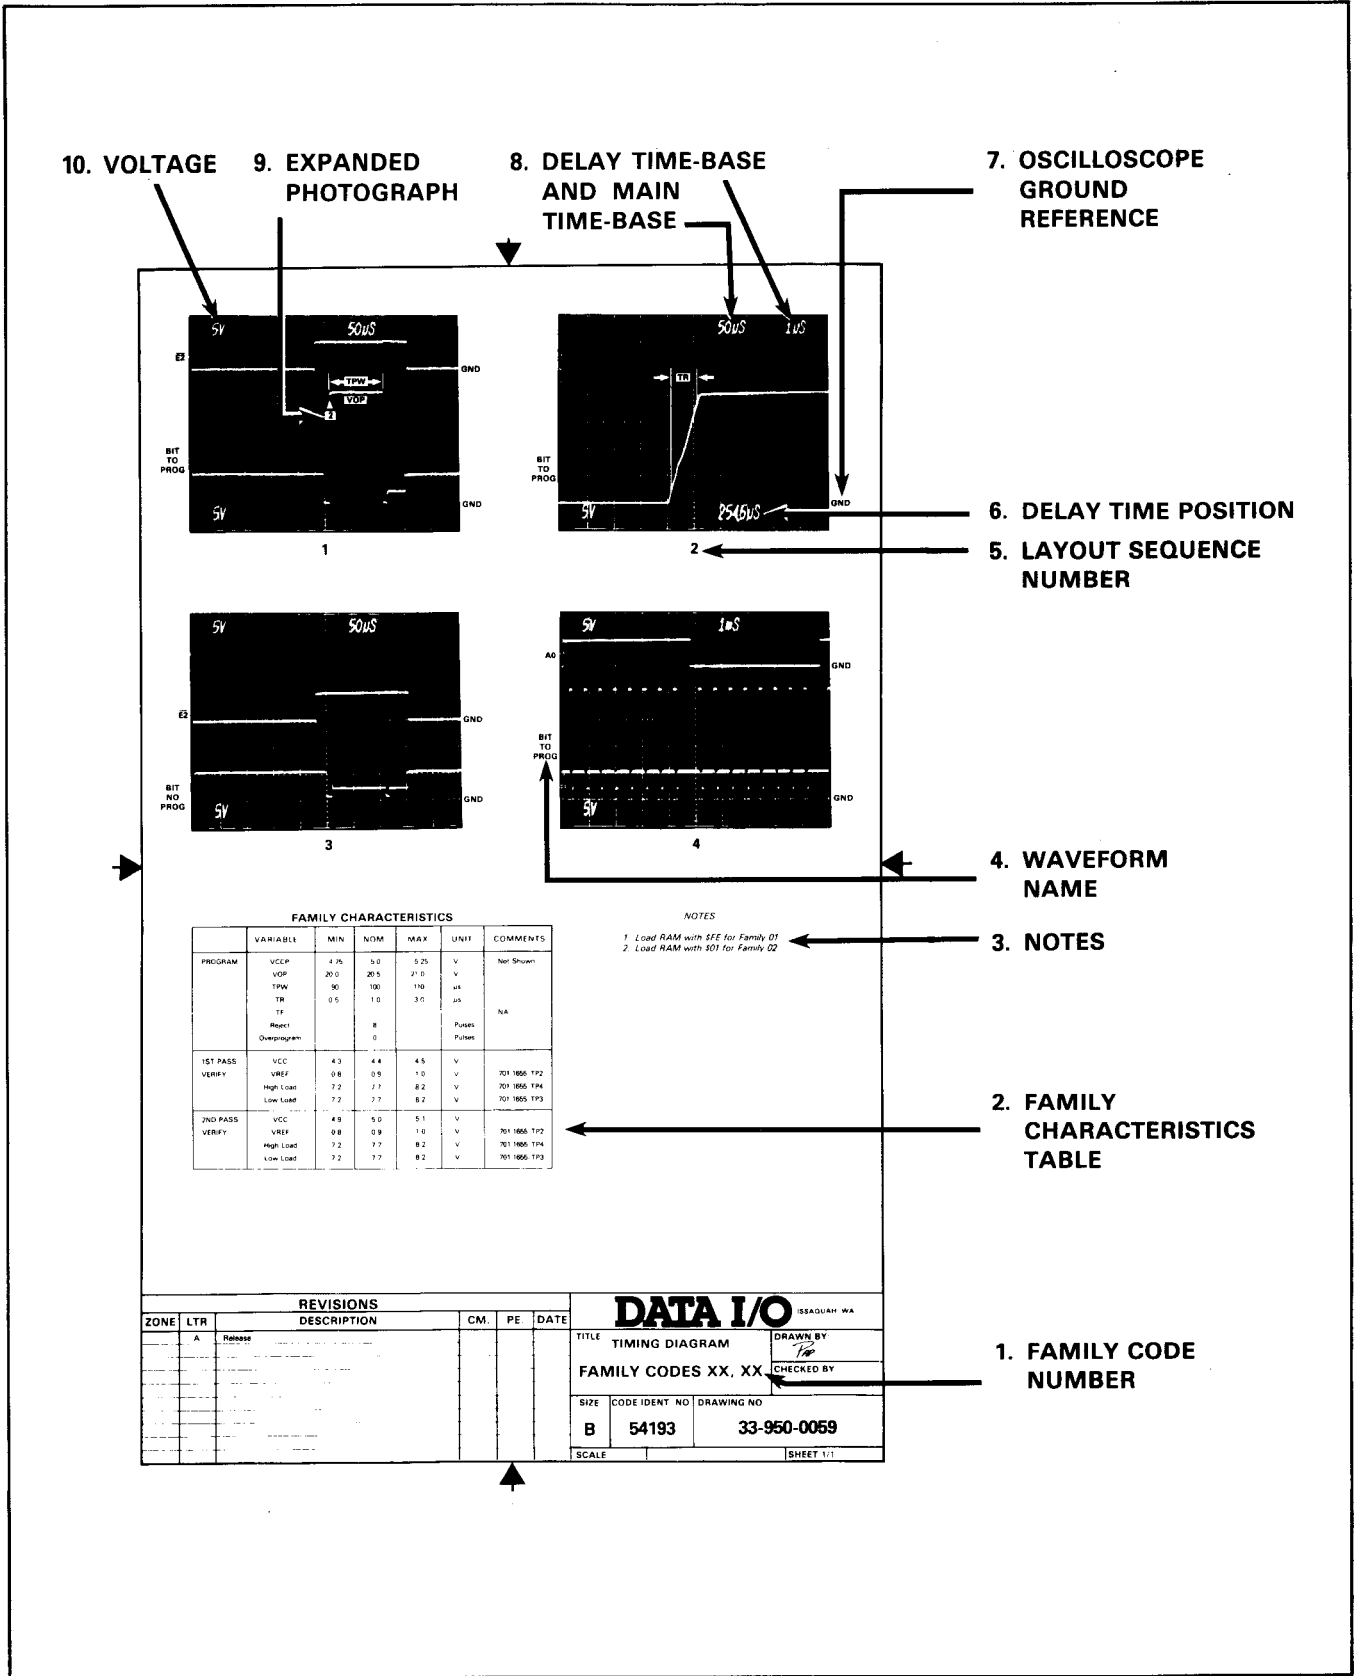

Figure 4-13. Sample Timing Diagram
9. To observe individual waveforms, refer to figure 4-13 under the pinout code number entered in step 3. The individual socket illustrations give the numbers of the socket contacts to probe when observing the waveforms on the timing diagram.
This manual contains a timing diagram for each device family that can be programmed by the UniPak 2™. Each timing diagram contains a set of waveform photographs that show critical programming parameters. To use these diagrams and photographs, read the information provided below and refer to the sample timing diagram (figure 4-13).